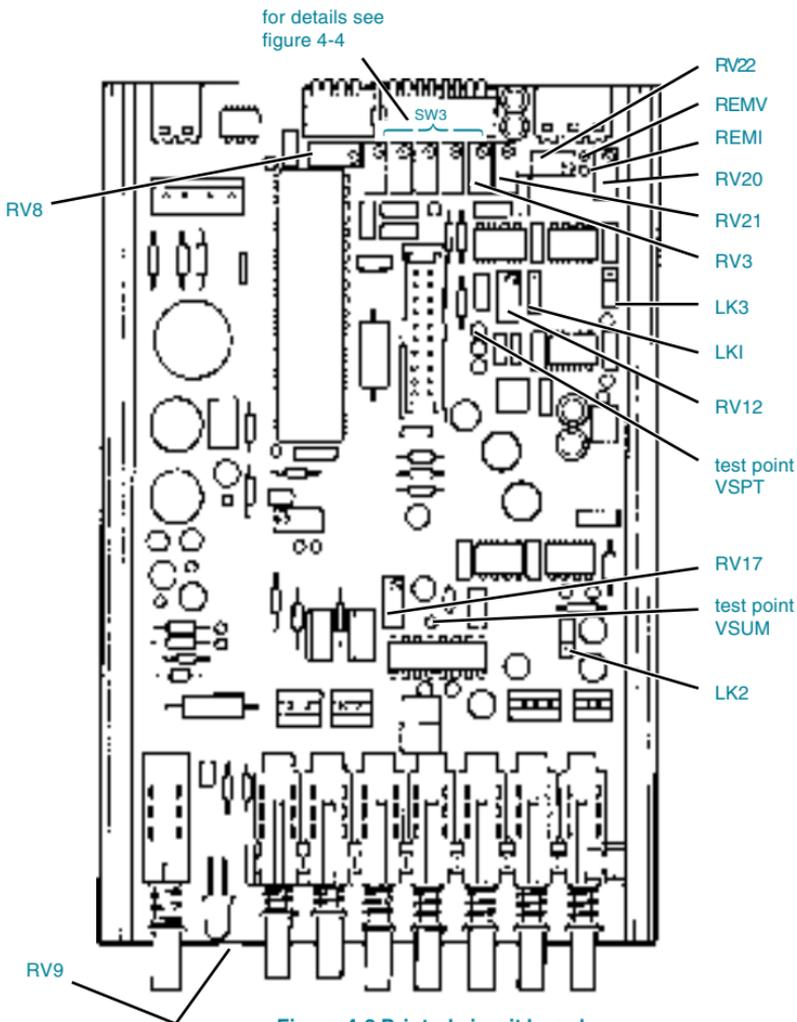

Figure 4-2 Printed circuit board
### Procedure (Figure 4-2)
#### 4.3.1 Current Input (Figure 4-2)
**4.3.2 Voltage Input (Figure 4-2)****Preparation**
#### Procedure (Figure 4-2)